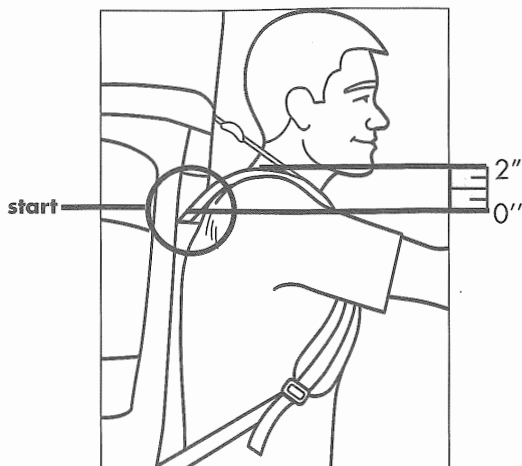

Figure 2C
- C. Once the waistbelt is in the correct position, tighten the shoulder straps.** To tighten the shoulder straps, pull the webbing at the lower ends of the shoulder strap down and back. The pad of the shoulder strap should start one to two inches below the top of your shoulder (**Figure 2C**). (Put a little more load on your shoulders than you want to end up with.) During this operation the load-lifter straps should be kept loose.